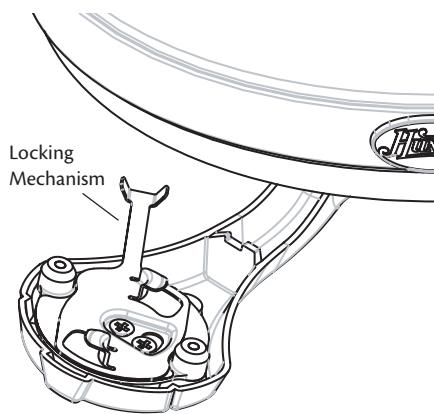

Figure 23 - Opening blade iron locking mechanism
- Open the locking mechanism as shown in Figure 23.